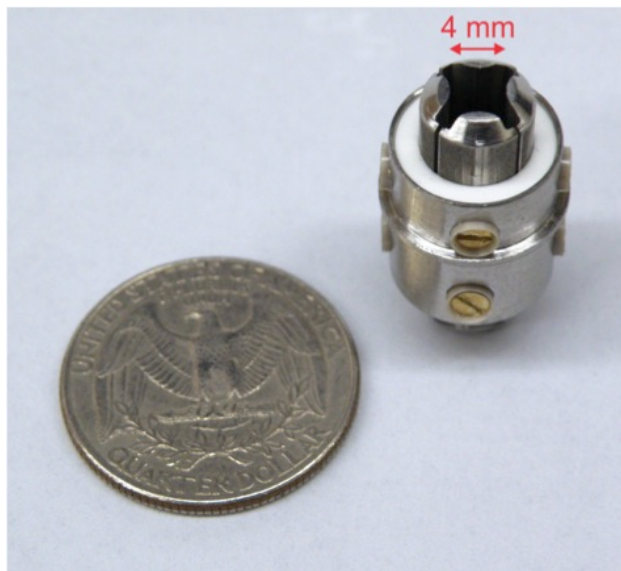

FIG. 2. The micro-RFQ after the DC-drag cooling RFQ.
- At the end of the DC-drag cooling RFQ, a micro-RFQ is mounted (Fig. 2). The micro-RFQ is 2 cm long and has a 4.5 mm exit hole, which is necessary to ensure efficient differential pumping